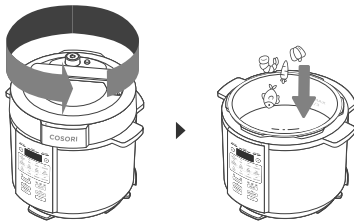

Figure 5.1
1. Twist the lid counterclockwise and lift to open. Add the ingredients to the inner pot. [Figure 5.1]